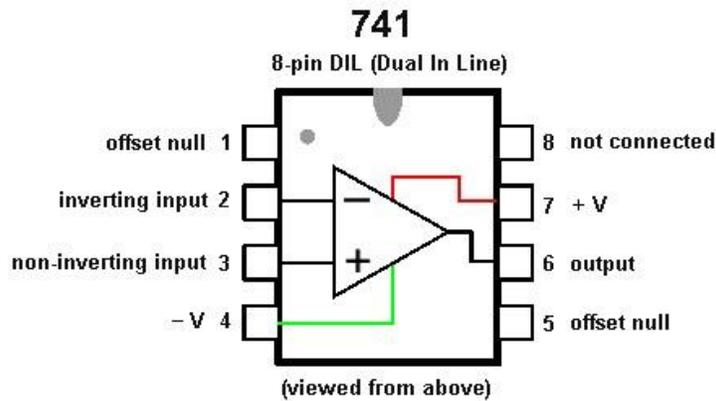

Fig. 1. LM741 op-amp pinout looking at it from above.
Perform the following analyses and calculations before coming to lab. For all circuits in this assignment, assume that the op-amps are ideal and that they use  $\pm 15$  V power supplies for biasing. Fig. 1 shows how the op-amp's schematic symbol maps to its physical IC pinout.
- a. Refer to the LM741's pinout drawing in Fig. 1.